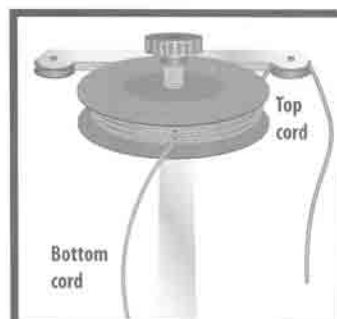

Figure 3
5. On the NordicTrack Sequoia, thread the end of the top cord through the right pulley from left to right (Figure 3). On the NordicTrack Challenger, thread the end of the cord through the left cord guide. Pull the top cord down to wrap the other section of the cord around the drum.